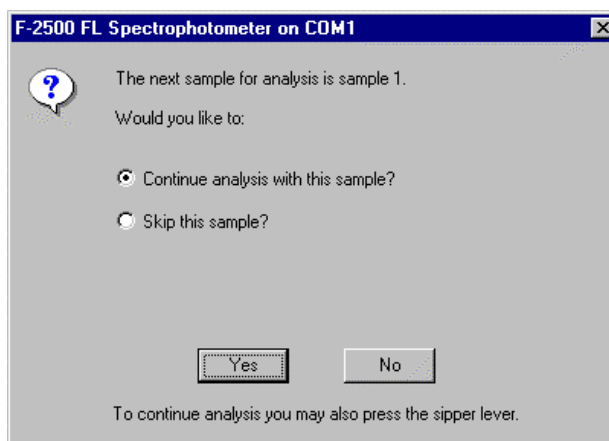

Fig. 3-10
- (2) Upon clicking the  button, the window shown in Fig. 3-10 appears when using a sample table. Now click **Yes**.